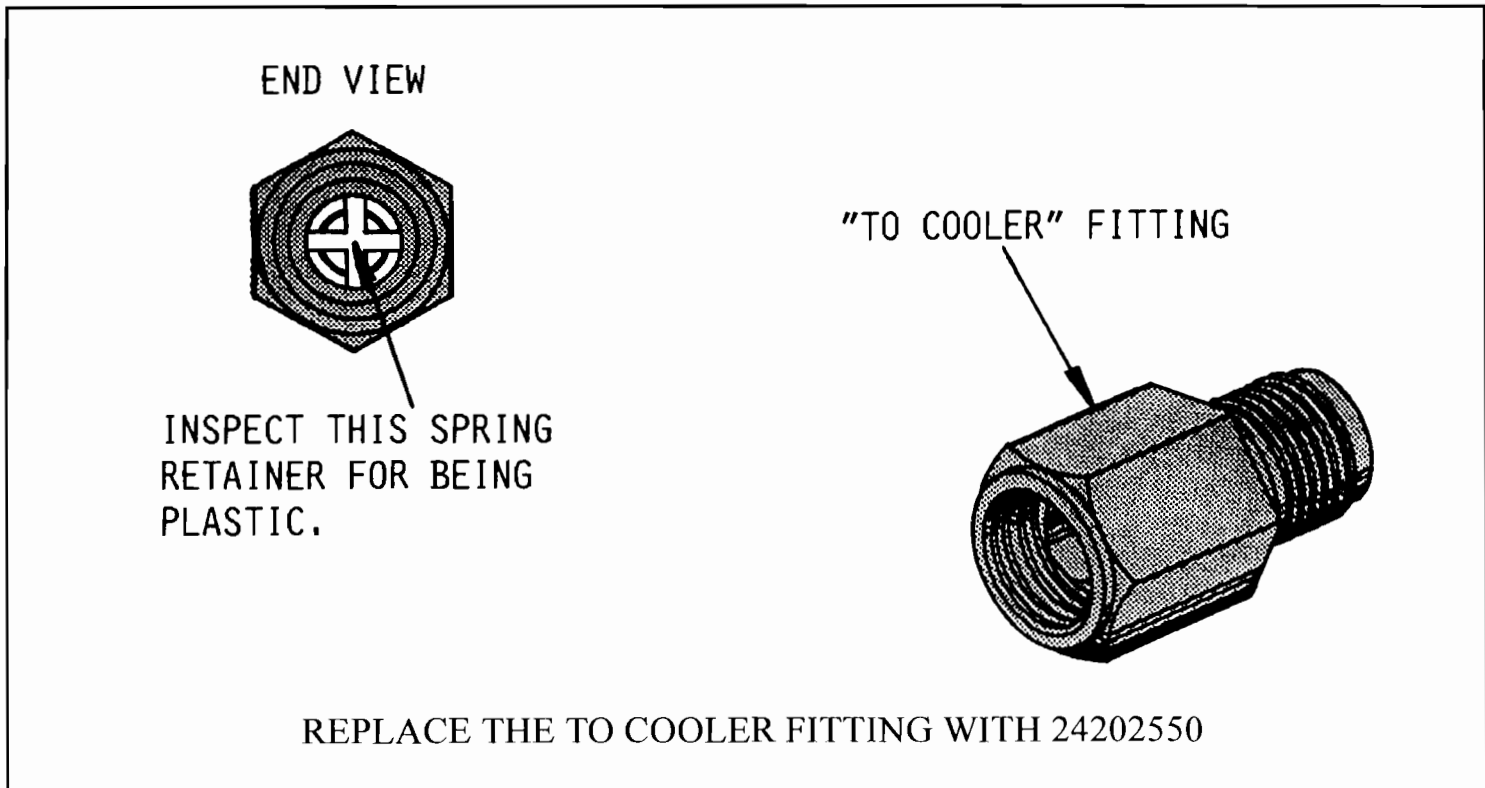

Figure 74
**CORRECTION:** Remove the "TO COOLER" (Large) fitting and inspect the spring retainer inside the fitting, as shown in Figure 74. If the spring retainer is plastic and/or melted, replace the fitting with OEM part number 24202550, which has a steel retainer. It is advisable to replace the "TO COOLER" fitting, even if the spring retainer is not melted, IF it has the plastic spring retainer. If the spring retainer IS melted, the cooler in the radiator needs a thorough flushing, and possibly replacement.